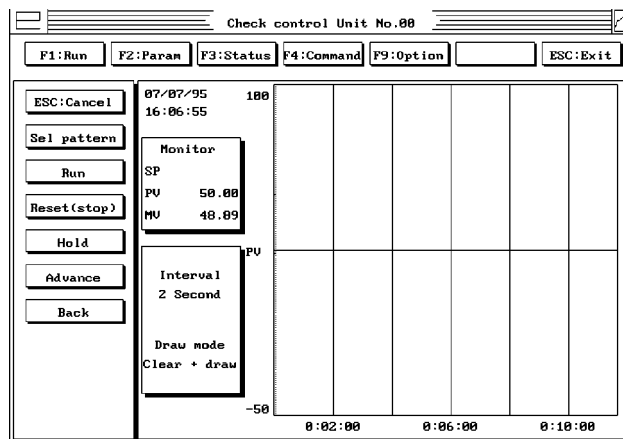

Figure 11
3. Select **Run** from the new vertical menu on the left side of the screen (Figure 11).